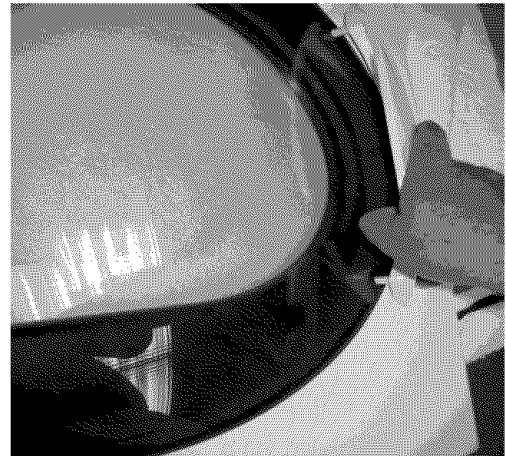

Figure 12
18. Reinstall door handle by placing the handle mounting bosses through holes in lens and transition ring and installing screws through inner door and tighten into handle bosses. (Figure 12).
20. Install four (4) plugs into the front panel door opening where hinges were originally installed.